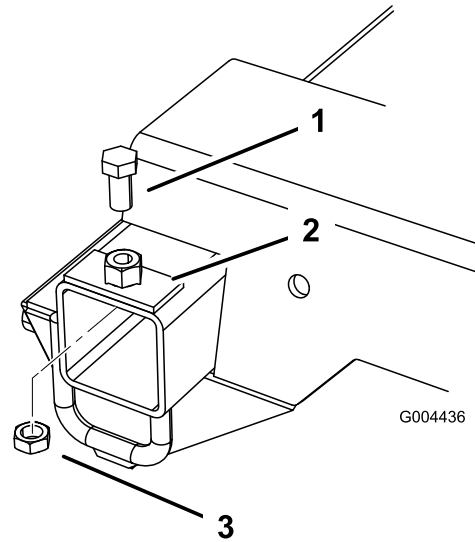

Figure 4
3. Place the plate over the drilled hole in the frame. Secure it into place using the bolt (1/2 x 1 inch) and jam nut (1/2 inch). Doing this will hold the plate in place during welding and assure proper alignment with the hole drilled previously (Figure 4).